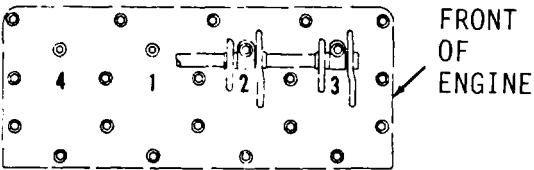

Figure 3-61.
- 39. Tighten four bolts (1) in sequence (Figure 3-61). First tighten to 115 ft-lb torque, then tighten to 185 ft-lb torque. Finally, repeat 185 ft-lb torque tightening sequence.